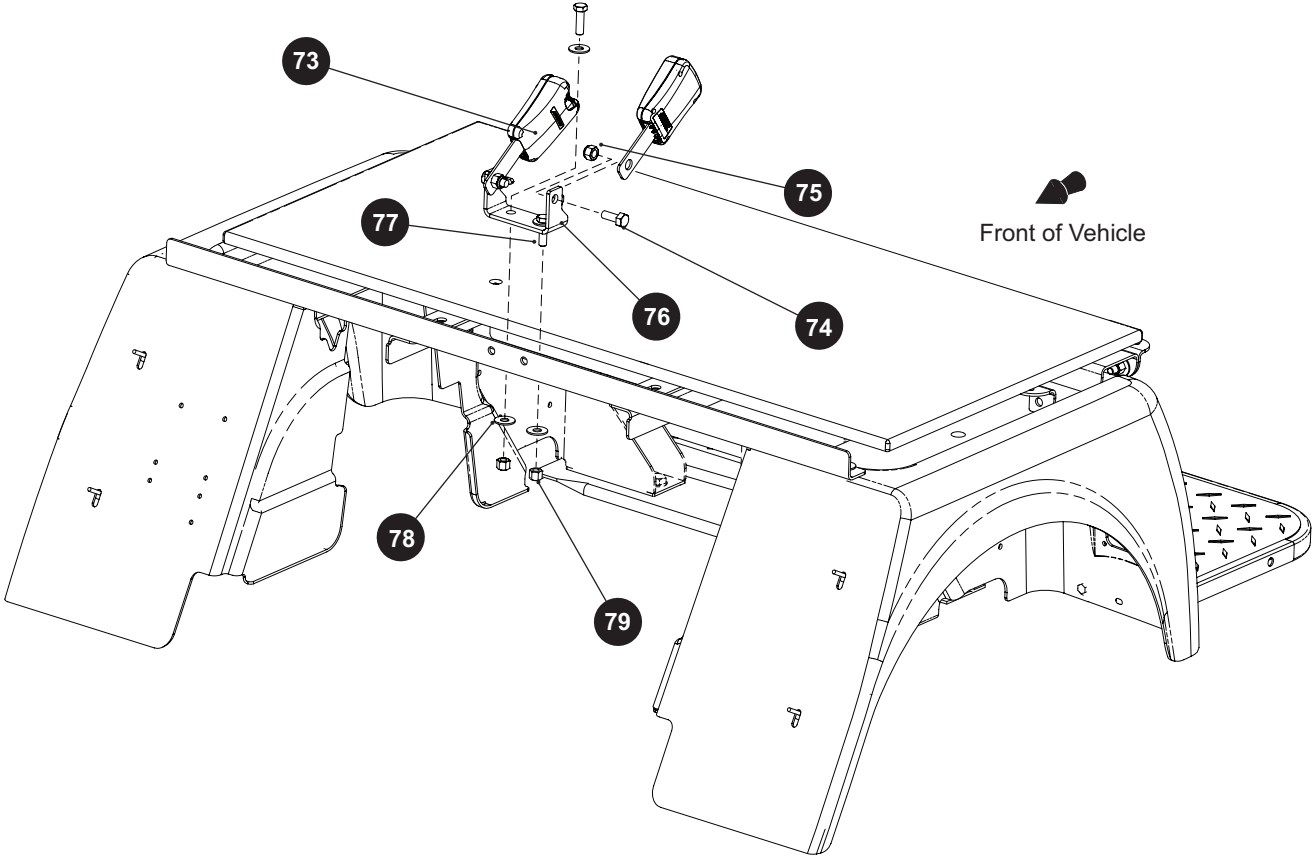

Fig. 10 Rear Seat Belt Buckle Removal
1. Remove bolts (74) and lock nuts (75) from the rear seat belt bracket (76) to remove the rear seat buckle (73) (Ref. Fig. 10).
2. To remove the rear seat belt bracket (76), remove the bolts (77), washers (78), and nuts (79) that secure the bracket to the frame (Ref. Fig. 10).